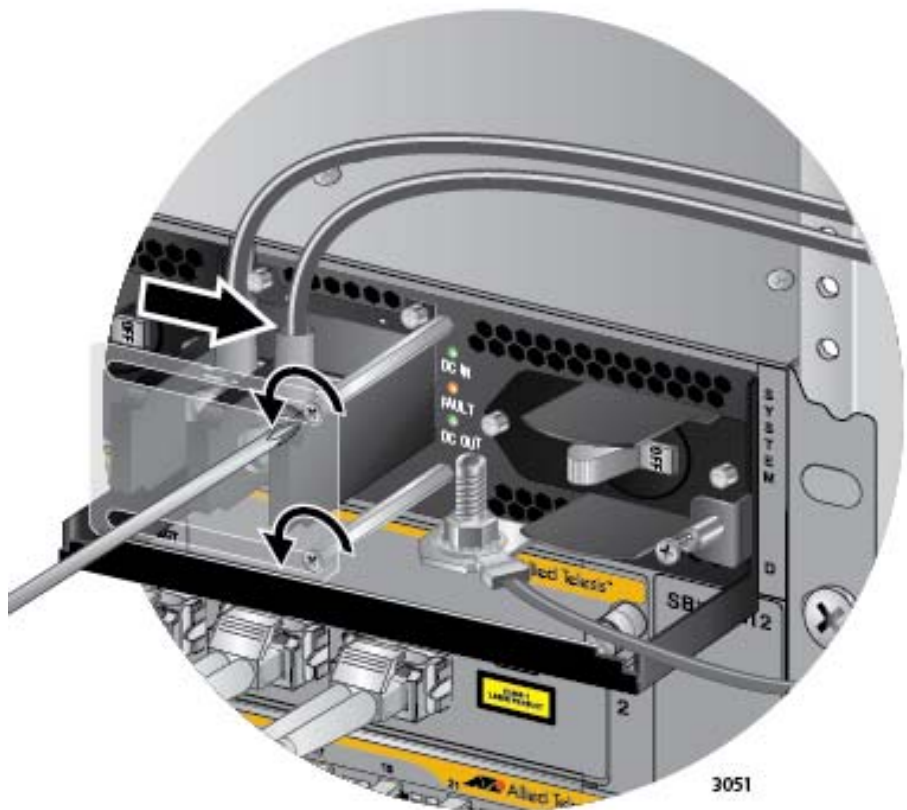

Figure 151. Opening the Plastic Window over the Terminal Block
4. Use a #1 screwdriver to loosen the two screws that secure the plastic cover over the terminal block and slide the cover to the right. You may need to slightly lift the locking handle to access the bottom screw. Refer to Figure 151.